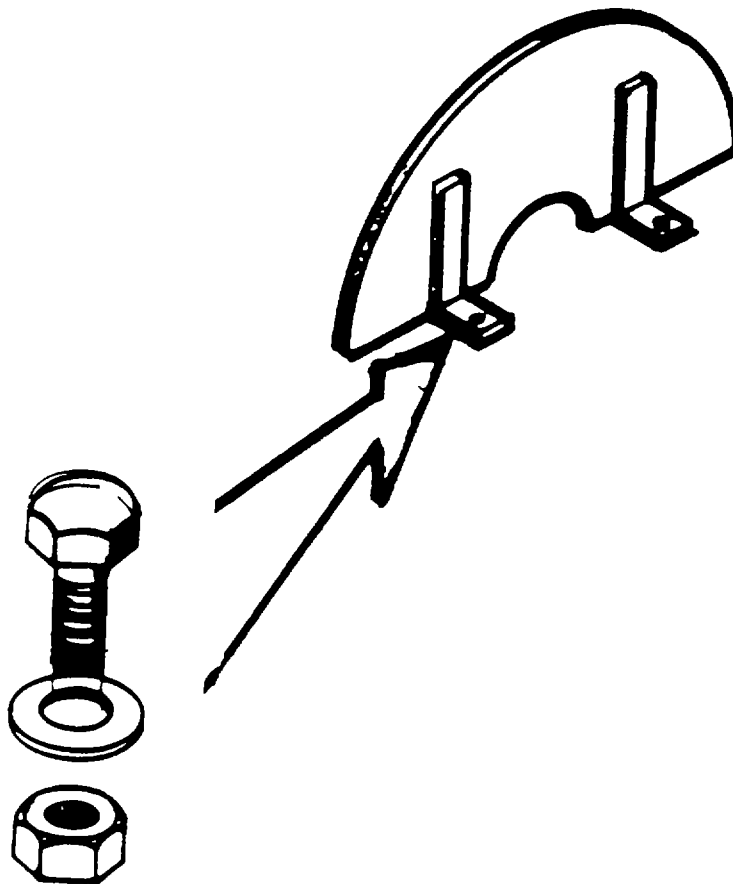
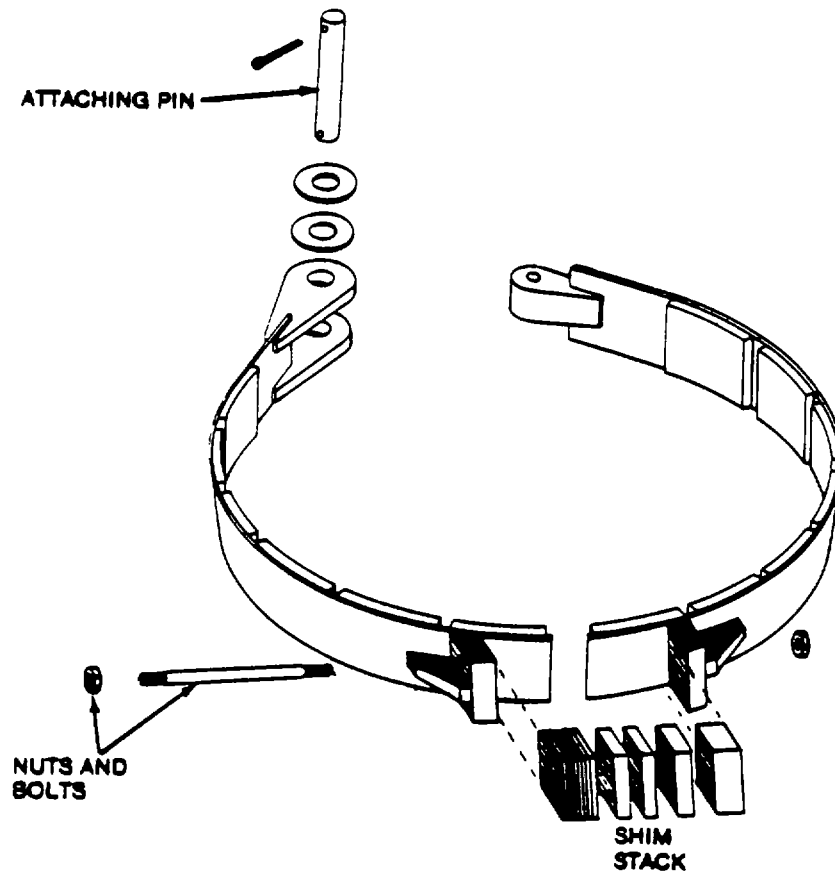

Figure 3-6. Front and Rear Brake Drum Covers.
Figure 3-7. Front and Rear Brake Drum Adjustment.
(1) Open front and rear drum brake band covers as illustrated in figure 3-6.
(2) Inspect brake bands for out-of-round condition, uneven pad wear, and contact over at least 85% of drum surface. If brake band fails this visual inspection, refer problem to your supervisor as brake repair may be required.
(3) Refer to figure 3-7; apply and release brakes and measure crank travel from released to set position. If crank travel approaches 2 inches, brake requires adjustment.
- (6) Remove two 1/8 inch shims and retighten adjusting nuts to 121 lb-ft torque.
- (7) Apply parking brake and set band stop screws and cam roller to clearances shown in figure 3-7. Reset the jam nuts as necessary.
- (8) Apply and release the service brake and measure crank travel. Adjusted travel should not be less than one inch.